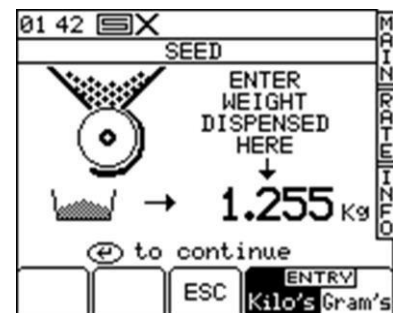

Figure 20. Calibration correction screen
4. Weigh the contents of the container, and then enter the **ACTUAL** weight dispensed (Fig.20) and press ENTER to confirm.